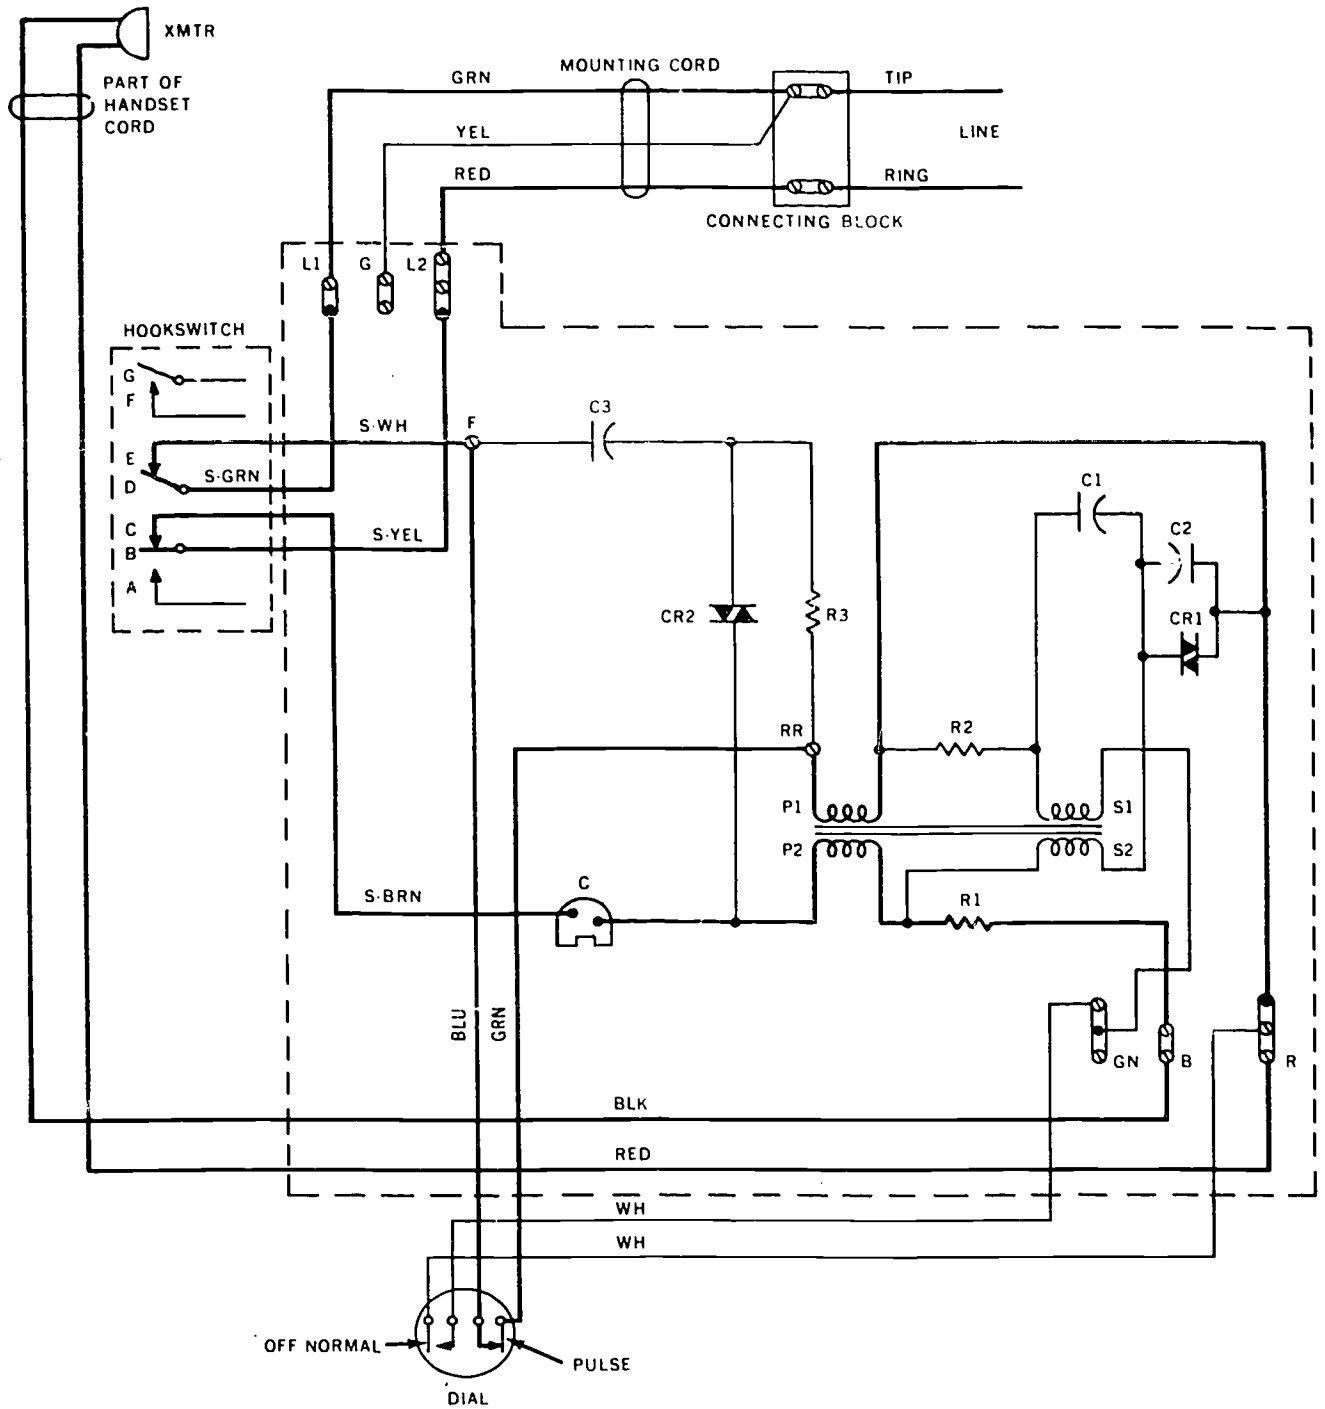

Figure 2-17. Transmitter circuit schematic diagram (500-type telephone).
transmitter circuit in figure 2-17. However, you should have no trouble in tracing the path of current on either figure (2-15 or 2-17).
Note in figure 2-17 that the transmitter current flows through both primary windings (P1 and P2) of the induction coil. Also note that the current flows through these windings in opposite directions; that is, the current that flows through winding P1 in one direction flows through winding P2 in the opposite direction. Thus, with any current change in the circuit, these windings aid each other through the process of induction. Therefore, when someone speaks into the transmitter, causing its resistance to vary, the changing current values in the circuit cause strong voice currents to be induced in the induction coil windings. These voice currents, beside being applied to the network circuits, are applied to the telephone lines leading to the central office. If these lines are connected through to another telephone, the voice currents are applied to the receiving circuitry of that unit. Before we trace these voice currents through the receiver circuits, let's briefly discuss the equalizing feature of the telephone.
When voice currents are induced in the transmitter circuit, they pass through terminals RR and C of the network assembly. These voice currents are also applied to the tip and ring conductors via the circuitry of the dial, hookswitch, and connecting block assembly (see fig. 2-17). Similarly, when voice currents are received by the telephone, they enter the circuitry over the tip and ring conductors and go through terminals RR and C via the connecting block, hookswitch, and dial circuitry. To keep the speech volume approximately equal at telephone sets located at varying distances from the central office, the telephone is equipped with an equalizer circuit. The equalizer circuit consists of two parallel circuit paths between terminals RR and C. One of these paths is through resistor R3 and varistor CR2 (see fig. 2-17). The other path is through winding P1, varistor CR1, and windings S2 and P2. These circuits tend to lower the volume
Base your answers on figure 2-17.
When the handset is removed from its cradle, a dialing circuit is established to the central office via the telephone lines. The completion of this circuit is indicated to the subscriber by the dial tone in the receiver. This dialing circuit is actually the same as the transmitting circuits. Dialing current from the central office passes over the ring side of the line to the telephone connecting block. To trace the dialing circuit from the connecting block through the telephone, refer to figure 2-17. From the ring conductor at the connecting block, the dialing current passes through the red (RED) conductor in the mounting cord to terminal L2 on the network. From terminal L2, it passes over the slate-yellow (S-YEL) lead to contacts B-C on the hookswitch, through the B-C contacts and a slate-brown (S-BRN) lead to terminal C, and then through three parallel paths to terminal RR:
1. Refer to figure 2-17. What has occurred at TIP and RING of the line during the preparation for dialing?
2. What is the first indication to the telephone user that the circuit in figure 2-17 is complete?